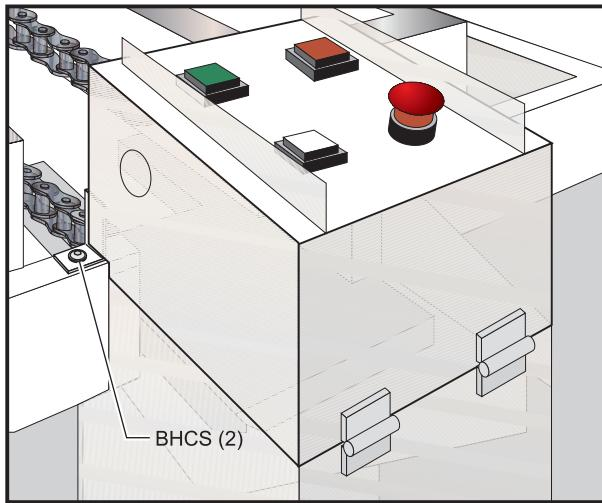

Figure 2.8 APC operator's panel cover.
16. Open the hinged APC operator's panel cover by removing the two BHCS (see Figure 2.8).